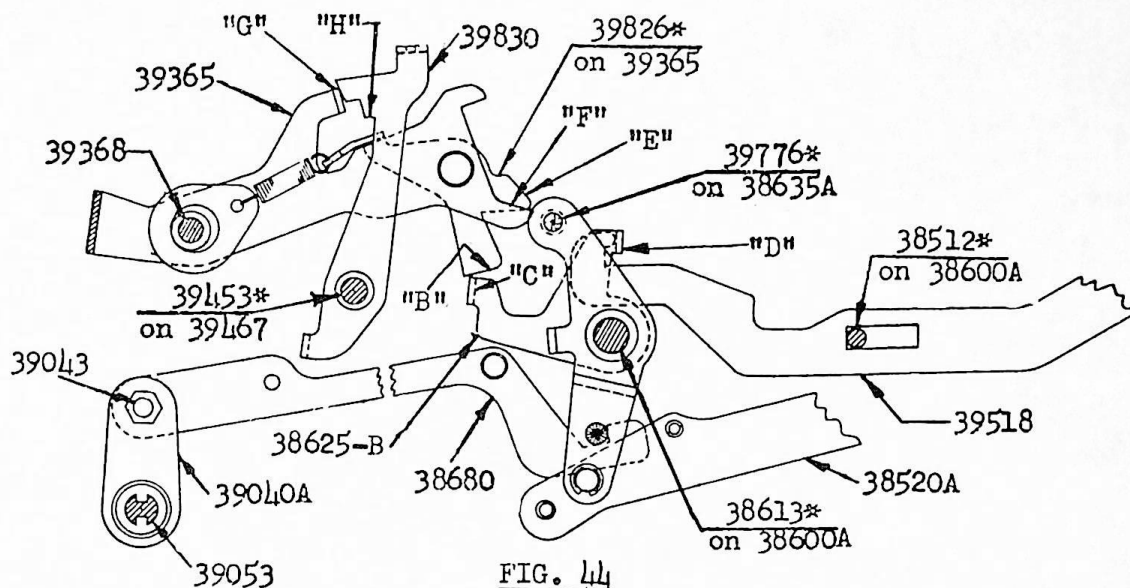

FIG. 44
3. (Fig. 44). The left arm of Bail-39365 carries a Live Point-39826* similar to the one on the Multiplier Key Bail-39370. (See Section V-Para. A-3 on Pages 1251 & 1252). Surface "B" on 39826* contacts ear "C" on the Equals Starting Lever 38625B, rocking 38625B counter-clockwise. Ear "D" on 38625B pulls the Master
4. (Fig. 44). Stud 39776* on the Starting Lever Release Lever-38635A, which rocks counter-clockwise on the Master Clutch Cycle, contacts surface "E" on the Live Point-39826*